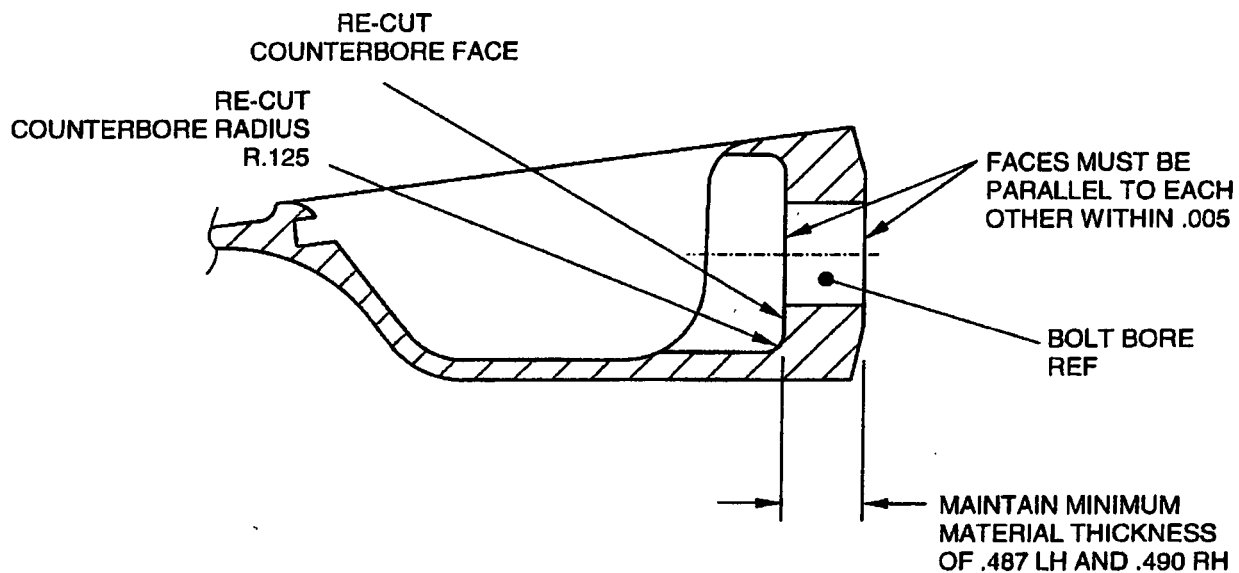

Fig 1
1. CAREFULLY RE-CUT FACE OF COUNTERBORE ON THE WING FITTING (000-110087-1 AND -2), REMOVING MINIMUM AMOUNT OF MATERIAL NECESSARY TO CLEAR ALL WASHER IMPRINT DAMAGE AS SHOWN IN Fig 1. MAX MATERIAL REMOVAL NOT TO EXCEED DEPTHS OF DAMAGE DETAILED IN CUSTOMER'S DAMAGE REPORT (.487 LH AND .490 RH FITTING REMAINING THICKNESS).
2. RE-CUT RADIUS FOR NEW COUNTERBORE FACE FOR THE FITTING AS SHOWN IN Fig 1.